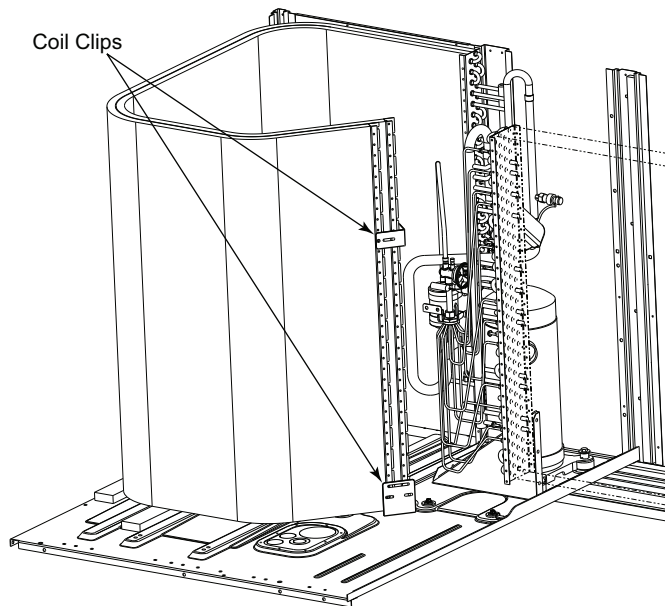

Fig. 20 – Condenser Coil Clips
5. Remove the screws from both sides of the upper and lower coil retaining clips on the hairpin end of the coil tube sheets. See Fig. 20.